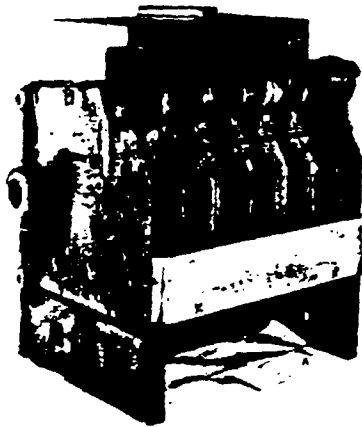

FIG. 9
4. Assemble front and rear plates using four (4) 5/16" x 1-1/4" hex. machine screws and 5/16" star washers provided. Putty between top of front plate and sections to form gas seal. (See Figure 9).